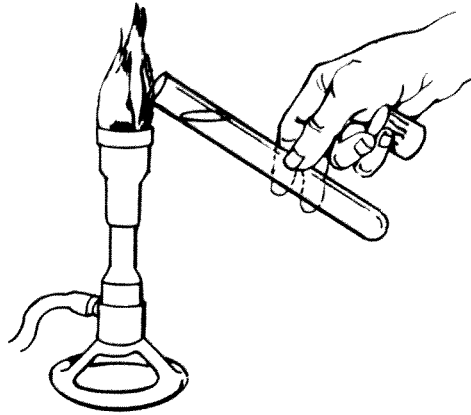

FIGURE 9-4
5. Flame the neck of the tube, as in Figure 9-4.